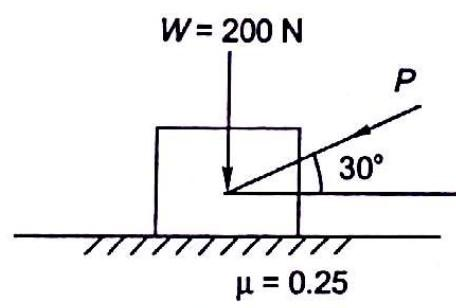

Fig. 6.25
6.2 A block weighing 200 N is lying on floor. Coefficient of friction between floor and block is 0.25. A pushing force P is applied on block as shown in Fig. 6.25. What is maximum value of P so that block starts sliding?